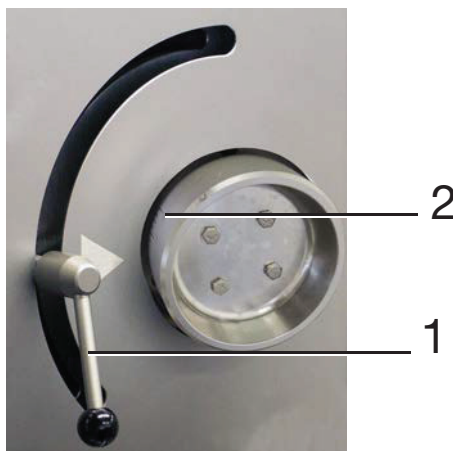

Fig. 5-19 1 Quick-locking screw
- Loosen the quick-locking screw (1, Fig. 5-19) and swivel:
The clip pressure set can be read on the clip pressure scale (2, Fig. 5-19).
- Re-tighten the quick-locking screw (1, Fig. 5-19).